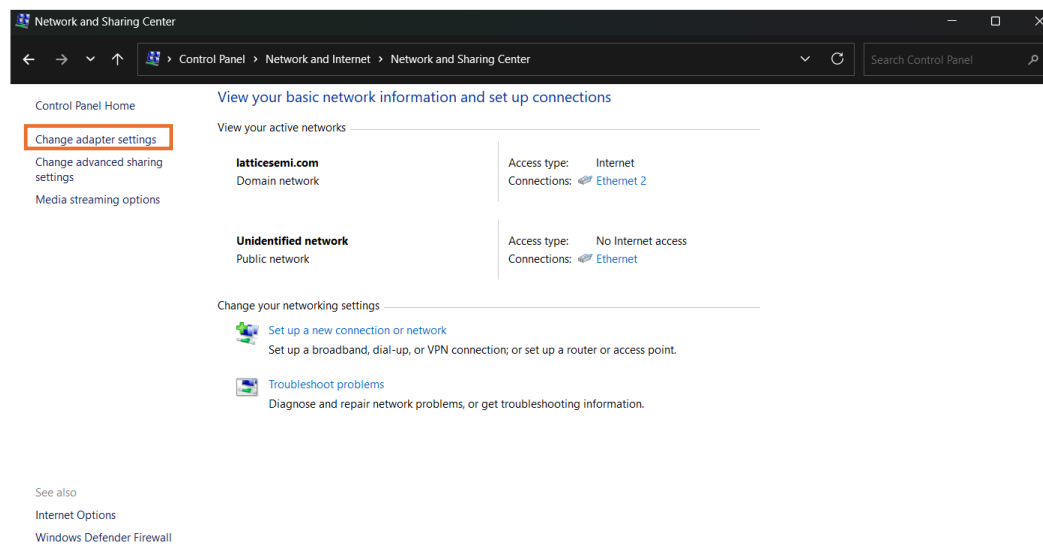

Figure 5.25. Network and Sharing Center Page
- d. Click **Change adapter settings** on the right side as shown in Figure 5.25.